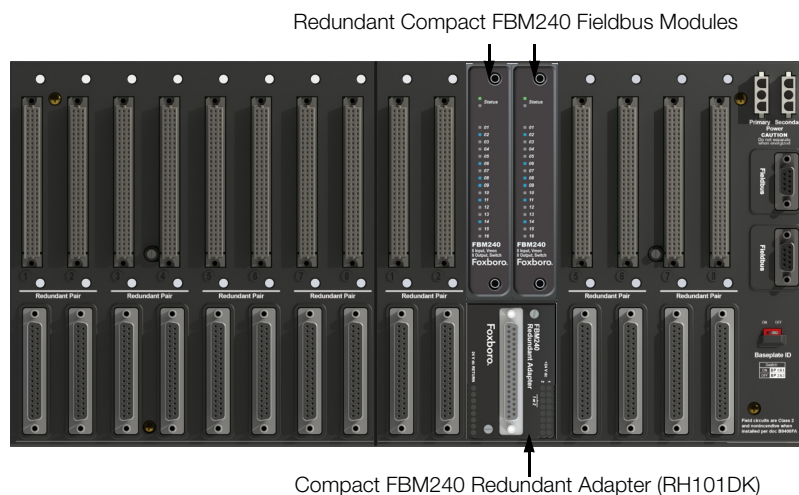

Figure 1. Compact FBM240 Redundant Module Configuration
The Compact FBM240 is an 8 channel input and 8 channel output Fieldbus Module (FBM) available as a single or redundant module. A redundant pair of the modules combine to provide redundancy at the FBM level, with field I/O wired to one common termination assembly (see Figure 1). Each module independently holds the output(s) at its specified output value(s), and each independently reads back its observed value of the output.
Redundant modules must be located in adjacent positions on the baseplate, with the first module located in an odd-numbered position (for example, the positions labelled "3" and "4"). To achieve redundancy, a redundant adapter module is placed on the two adjacent baseplate termination cable connectors to provide termination for a single cable (see Figure 1). A single termination cable connects from the redundant adapter to the associated termination assembly (TA).